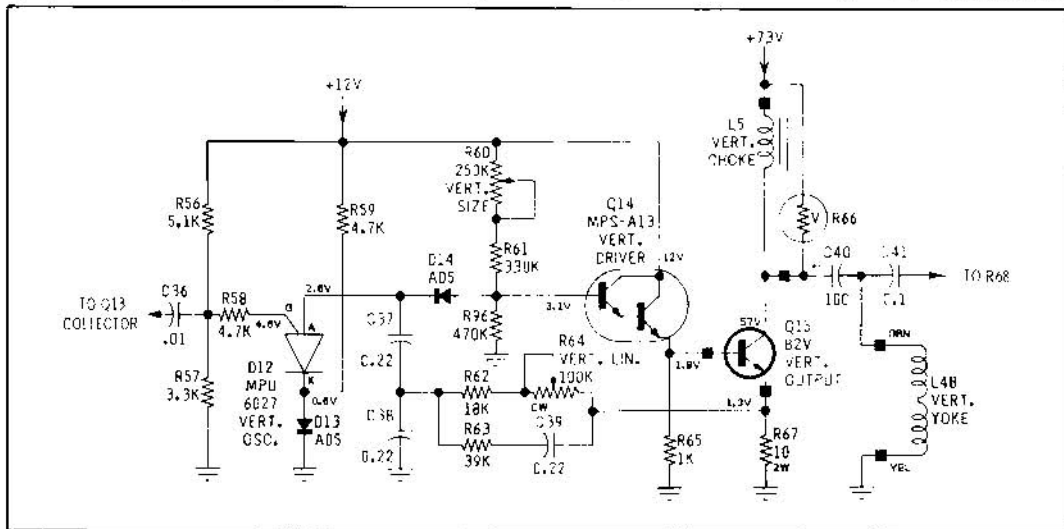

Figure 6-10 Motorola Monitor Vertical Oscillator Circuit
**Vertical Oscillator and Output (See Figure 6-10)**